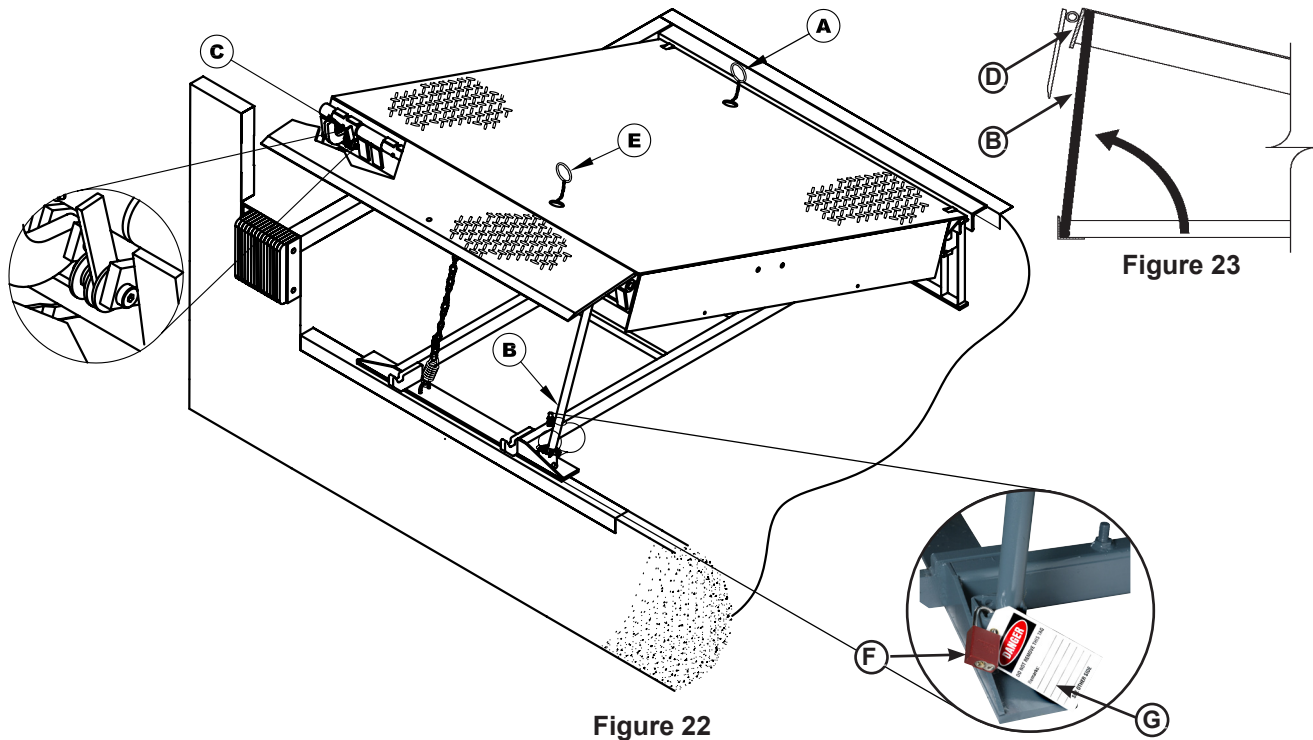

Figure 22
Whenever maintenance is to be performed under the dock leveler platform, support the platform with maintenance prop (B). Position the maintenance prop behind front header plate (D) while staying clear of the lip. Lock the maintenance prop in the service (upright) position using an OSHA approved lockout device* (F) and tag out device* (G). See Figures 22 and 23.